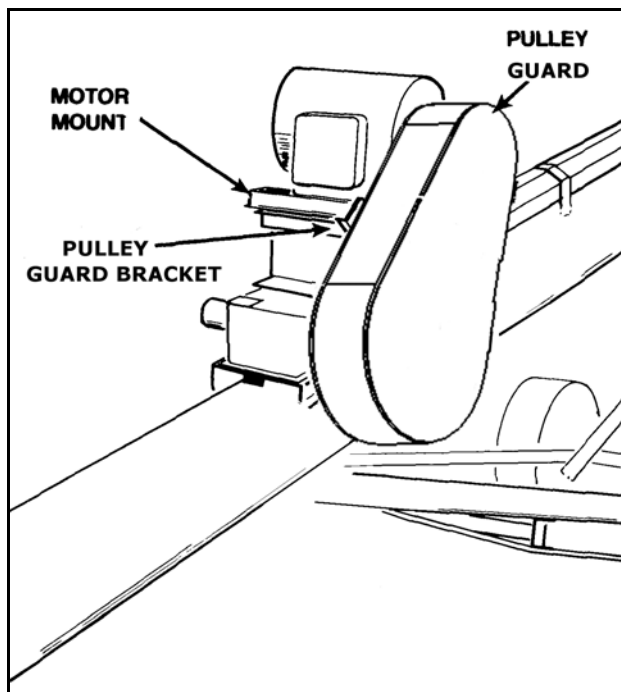

Figure 3.35
10. Close and lock the plastic pulley guard into place (Figure 3.35).